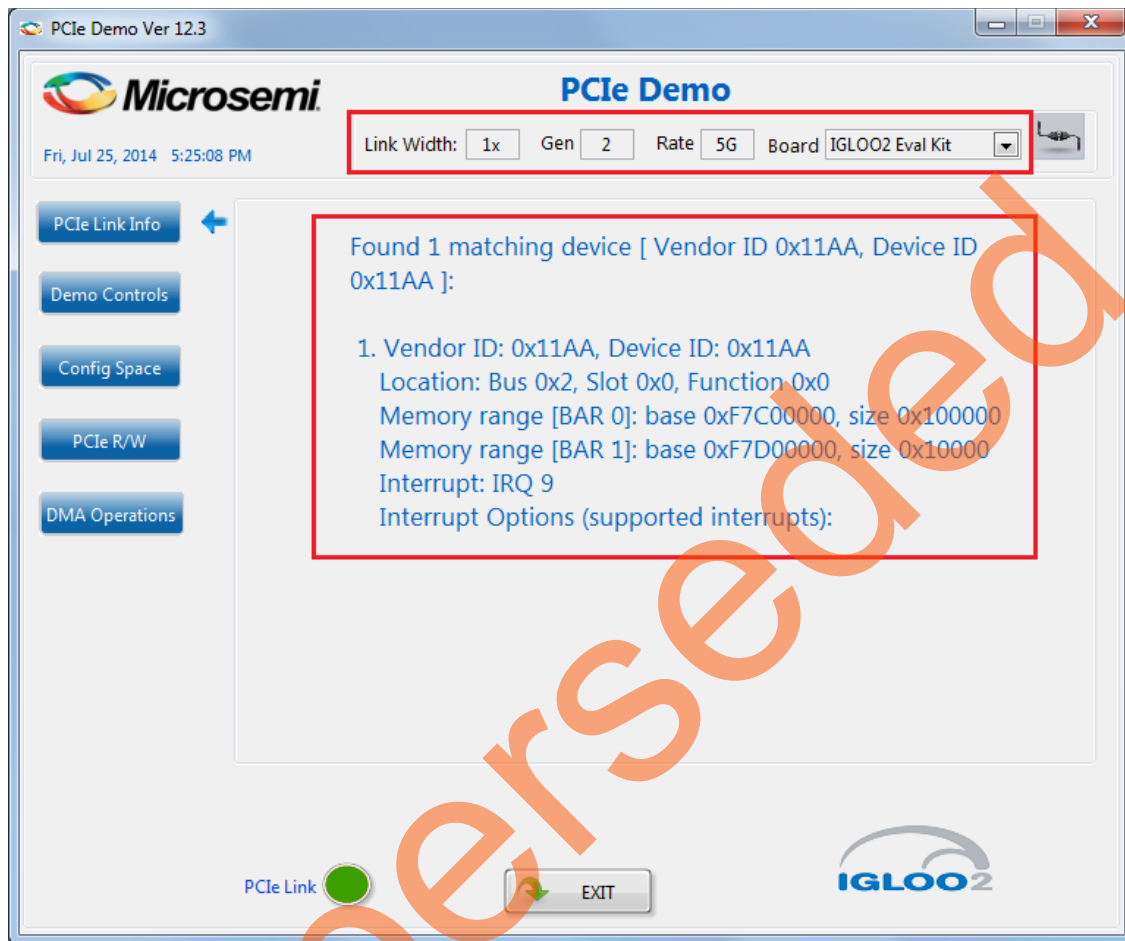

Figure 19 • PCIe Device Information
4. Click the **Connect** icon at the top right corner of the PCIe_Demo application. The application detects and displays the connected Kit, demo design, and PCIe link. Figure 19 shows the example messages after the connection is established.